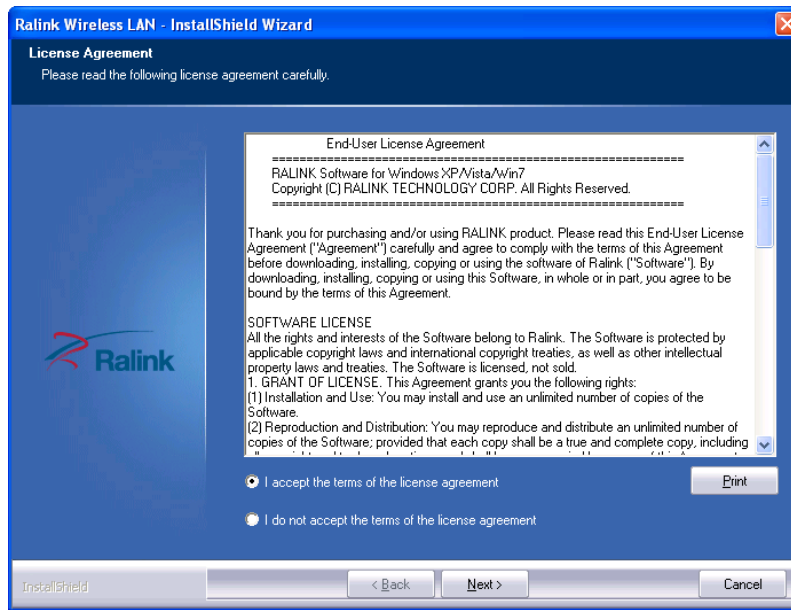

Figure 8-34: License Agreement
- Step 4: The **License Agreement** screen in **Figure 8-34** appears.